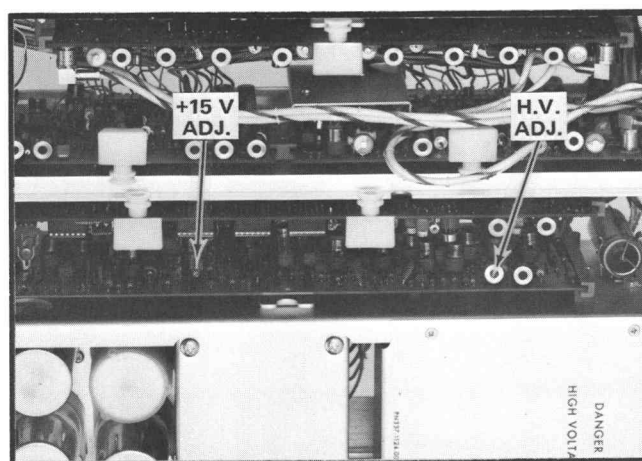

Fig. 5-3. Location of +15 V and High Voltage adjustments.
d. ADJUST—Adjust the +15 volt adjust, R1183 (see Fig. 5-3) for exactly +15 volts.
- c. ADJUST—R1001, High Voltage (Fig. 5-3) for a meter reading of exactly -3300 volts.